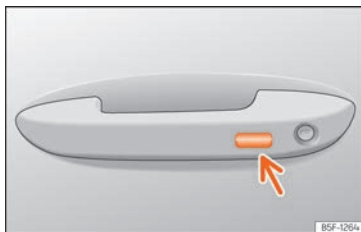

Fig. 100 Door handle: sensor surface.
- **OR** by means of the Keyless Access* (only closing): Press and hold the locking sensor surface **Fig. 100** (arrow) on the door handle for several seconds to close the windows and the sunroof*. If you release the sensor surface, the closing movement stops.
- Press and hold the locking sensor surface ➡➡➡ **Fig. 100** (arrow) on the door handle to close the sunroof. If you release the sensor surface, the closing movement stops.